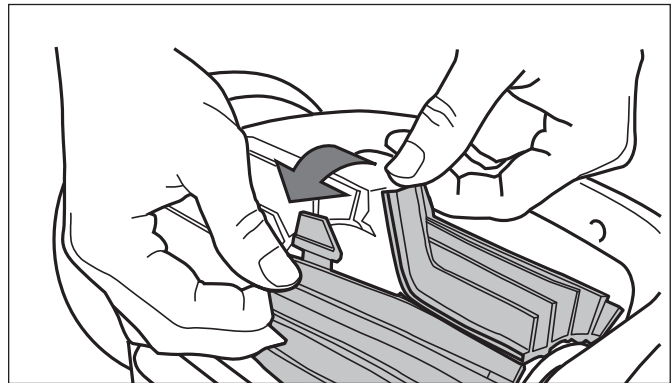

Figure 27. Undo the Tabs of the Brush
- Separate the edges of the brush and undo the tabs. Remove the worn brush (Figure 27).